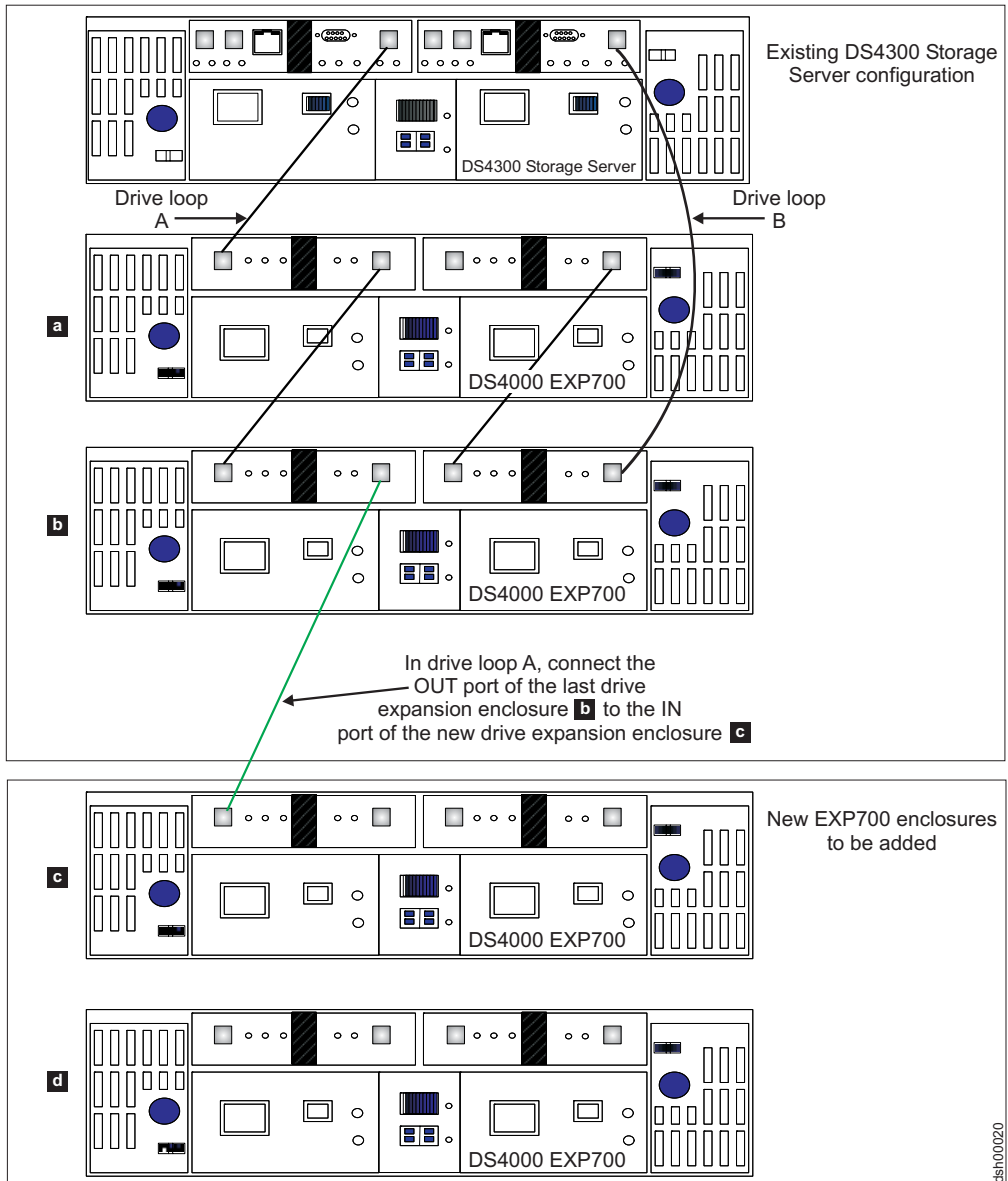
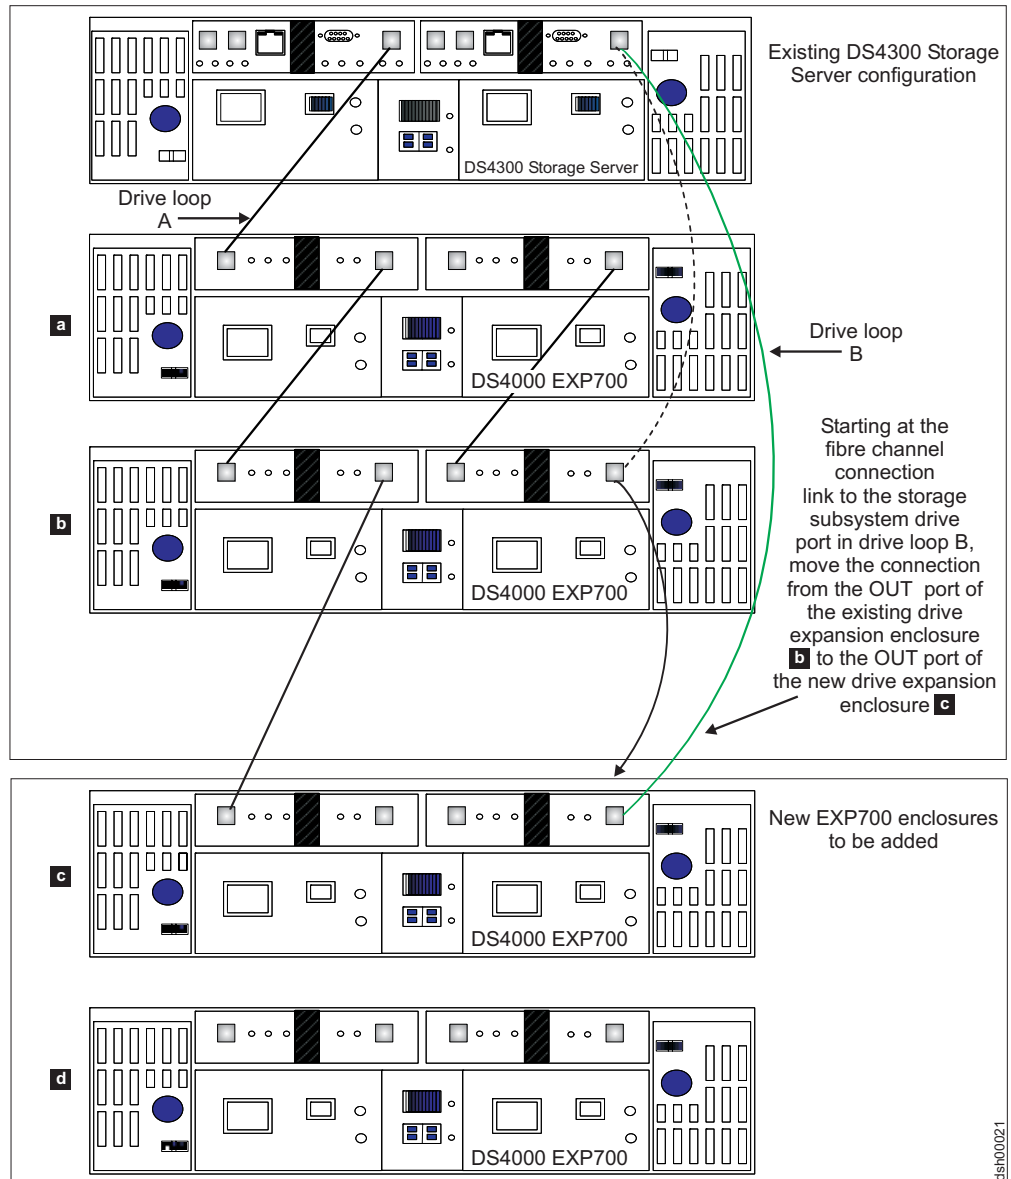
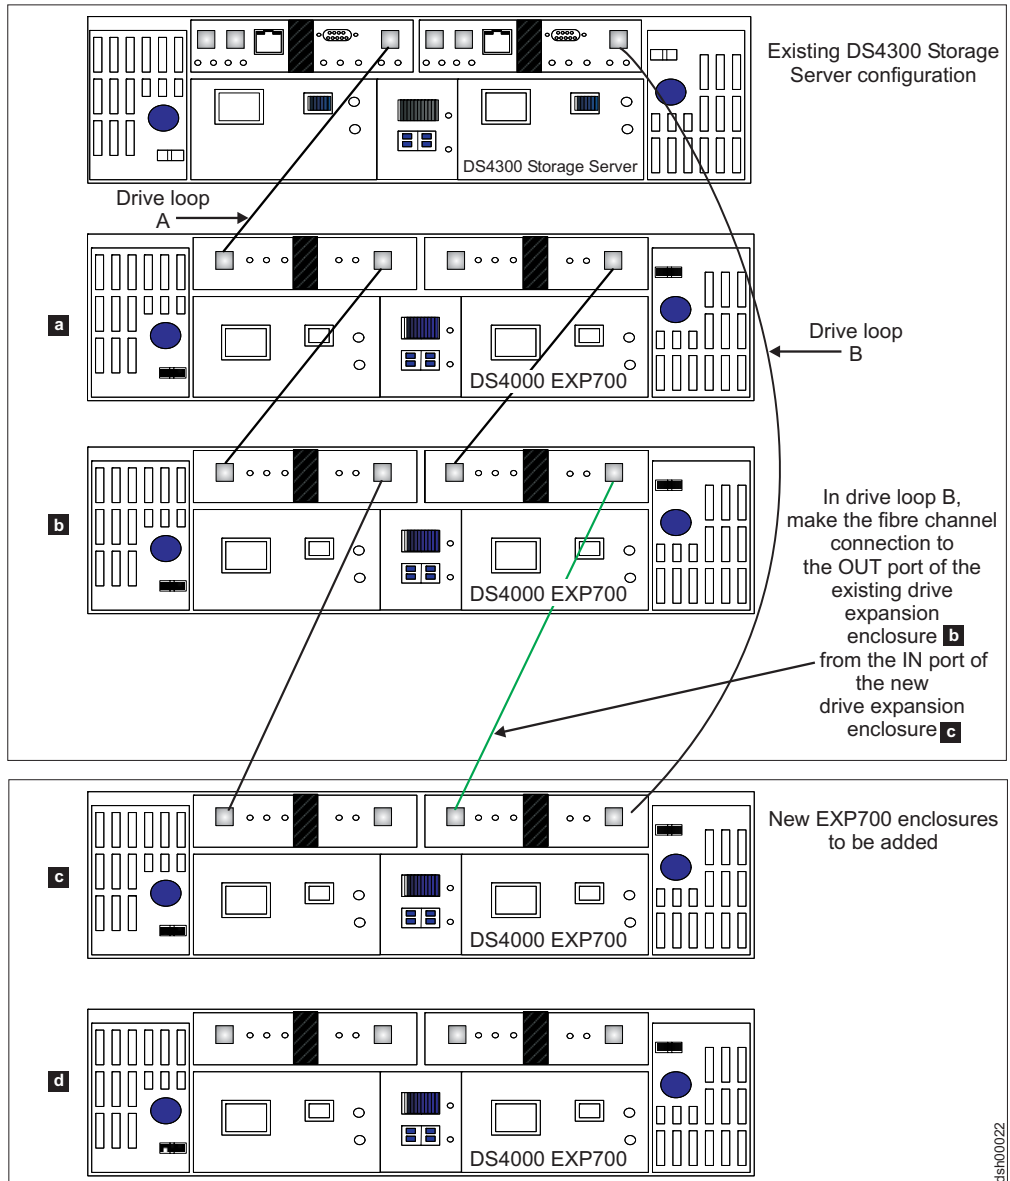

Figure 24. Cabling a single drive enclosure to the end of a functioning drive loop (step 1 of 3)
Figure 25. Cabling a single drive enclosure to the end of a functioning drive loop (step 2 of 3)
Figure 26. Cabling a single drive enclosure to the end of a functioning drive loop (step 3 of 3)
The cabling instructions illustrated in Figure 24 on page 82, Figure 25 on page 83, and Figure 26 on page 84 describe cabling a DS4000 14-drive expansion enclosure EXP700 to the end (bottom) of a redundant drive loop of a functioning DS4300 Storage Subsystem (model 60X or 60U). The same procedure can also be used to add any 14-drive expansion enclosure to any of the DS4000 storage subsystems. Again, IBM recommends that you add storage expansion enclosures to existing drive loops only in this manner.
- ___ Step 2. Extend one of the drive loops (that is, drive loop A) in a DS4000 Storage Subsystem redundant drive loop pair by connecting the OUT port of the last storage expansion enclosure to the IN port of the storage expansion enclosure as shown in Figure 24 on page 82.
- ___ Step 5. In the other drive loop (drive loop B) in a DS4000 Storage Subsystem redundant drive loop pair, remove the connection from the storage subsystem drive loop port to the OUT port of the last storage expansion enclosure and connect it to the OUT port of the drive enclosure as shown in Figure 25 on page 83.
- ___ Step 7. In drive loop B, cable the drive enclosure's IN port to the OUT port of the last enclosure in the already functioning storage expansion enclosure drive loop, as shown in Figure 26 on page 84.